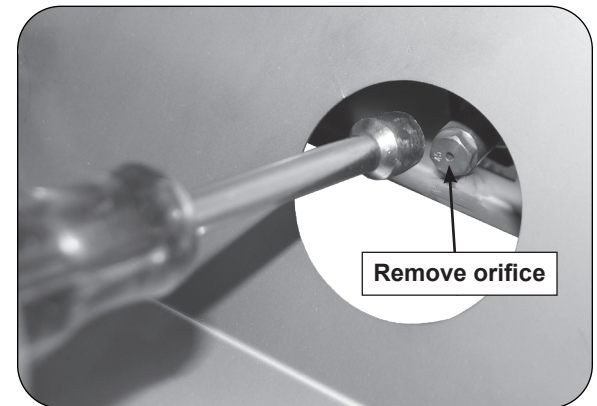

Fig. 37-2 Remove orifice to convert/check
4. Using a $\frac{3}{8}$ " socket, remove the orifice from the orifice holder (see Fig. 37-2 and Fig. 37-3) and check the number stamped on the face.